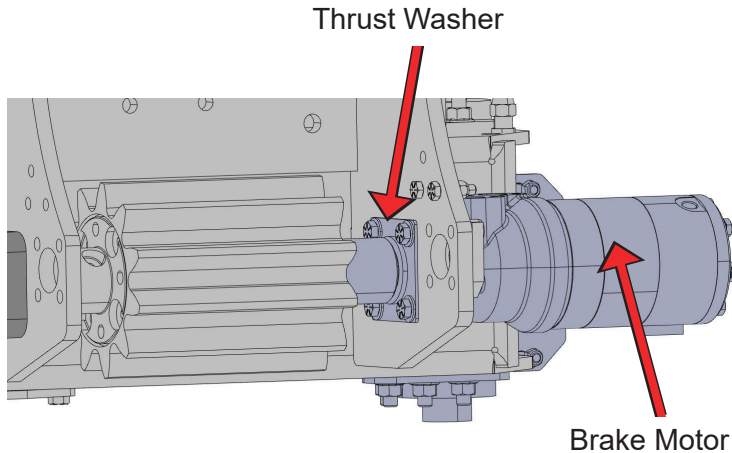

Figure 15
10. **Brake Motor:** Install the **brake motor** on the right side of the grabber assembly. Do not push the motor flush against the grabber assembly until the thrust washer is installed (see Step 11) (Figure 15). It may be necessary to turn the drive motor enough to correctly position the spline to allow the brake motor to be installed.
11. Install a thrust washer in place around the brake motor spline (Figure 15).